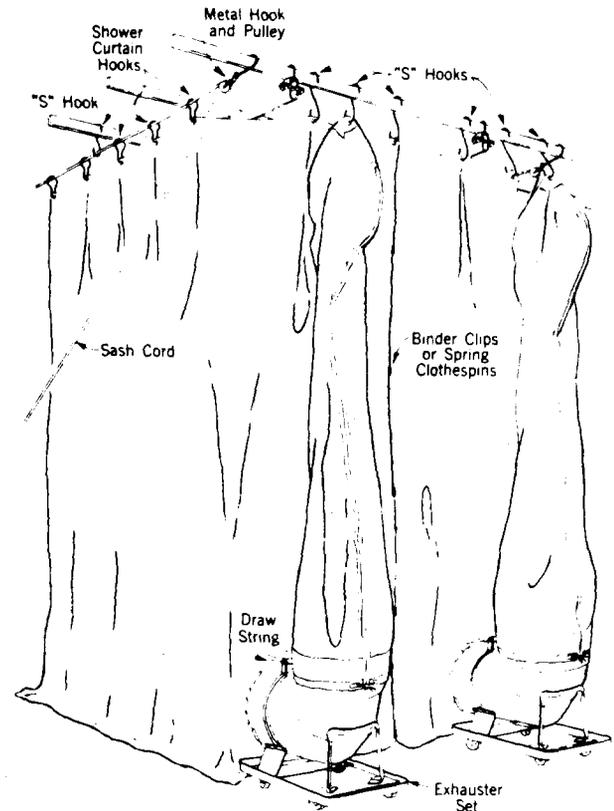

Fig. 4—Curtains With Exhaustor Sets in Place
**4.07** ♦Add insulated “S” hooks as necessary to prevent excessive sagging.♦ The tops of the curtains should be as close as possible to the underside of the overhead cable racks or superstructure in order to minimize the possibility of loosened dust escaping outside the enclosure. (See Fig. 4.)
**4.09** Locate an exhauster set in the aisle on each side of the frame to be cleaned and at the end of the curtain enclosure which has the exhaust openings. (See Fig. 4.)
**4.11** Attach the curtains to the exhauster sets with the intake side of the exhauster inside the enclosure. The draw string should hold the curtains securely attached to the exhauster. (See Fig. 4.) The removable length of metal chain shall be in place in the hem at the bottom of the curtain